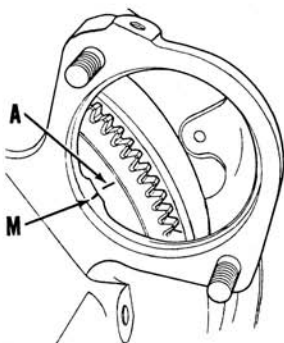

Fig. Y1-5—When setting fuel injection timing align advance mark (A) with flywheel cover mark (M) to establish correct timing advance for each cylinder.
When properly timed injection timing mark (A—Fig. Y1-5) will be aligned with flywheel cover mark (M) at same time fuel stops flowing from delivery valve nipple. Adjust timing by removing or installing injection timing shims (1—Fig. Y1-6). A 0.1 mm thickness change of injection pump timing shim will change timing by 1 crankshaft degree. Add to shim thickness to retard timing and subtract from shim thickness to advance injection timing.